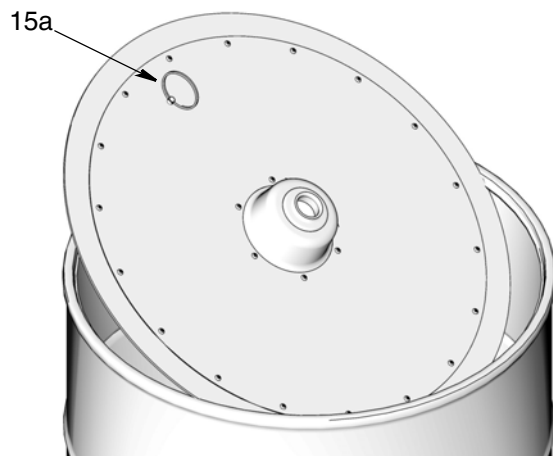

FIG. 25
4. If this is an existing installation, reach into drum and pull up on the follow plate ring (15a) to remove the follow plate (15) (FIG. 25). Place follow plate on a clean paper, cardboard or clean shop rags. **DO NOT PLACE ON SHOP FLOOR.**